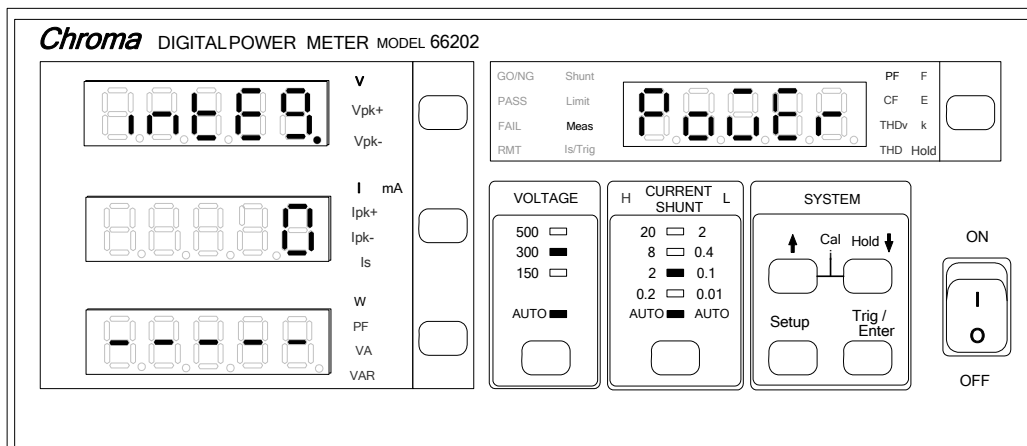

Figure 4-32 Setting Power
1. Press **Setup** to select Meas and the indicator of Meas is on. Figure 4-32 shows the setting of Power.